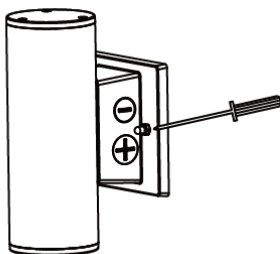

Fig. 1.1
1. Unscrew both sides of the luminaire and remove the mounting plates (Fig. 1.1).